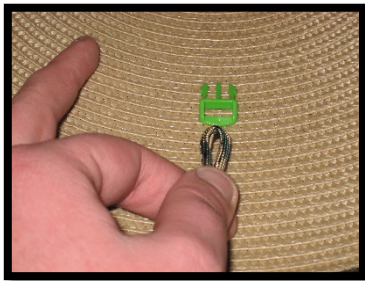

Figure 4.1
- Fold the cord in half, holding the looped end (Figure 4.1).